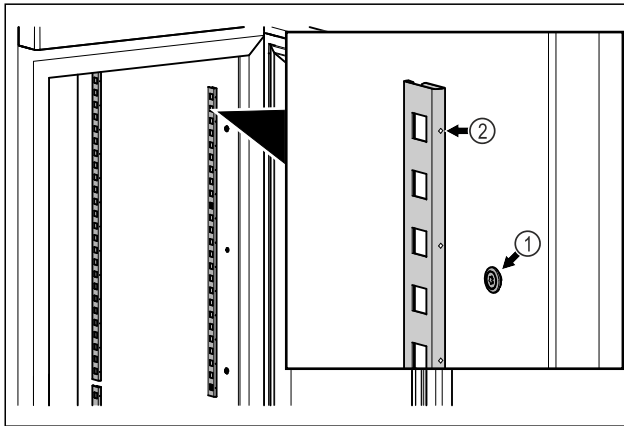

Fig. 48 Example illustration
- ▶ Hook the snap strips into the suspension Fig. 48 (1). Mark Fig. 48 (2) must point forwards.